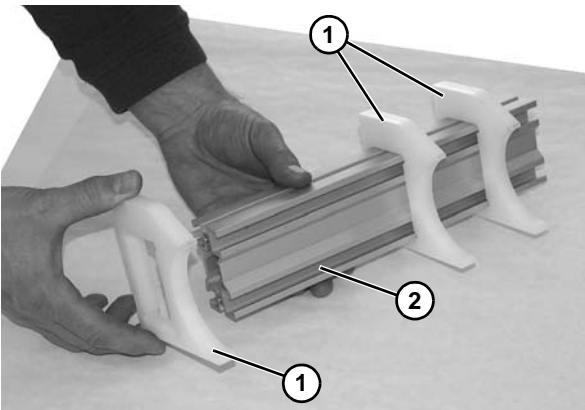

Figure 56
10. Remove gap filler plates (**Figure 56, item 1**) from crossmember (**Figure 56, item 2**).